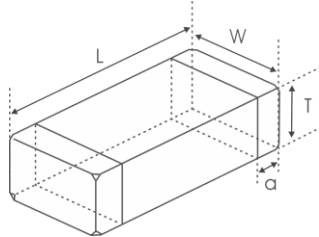

Fig. 3-1
1) Dimensions: See Fig.3-1 and Table 3-1.